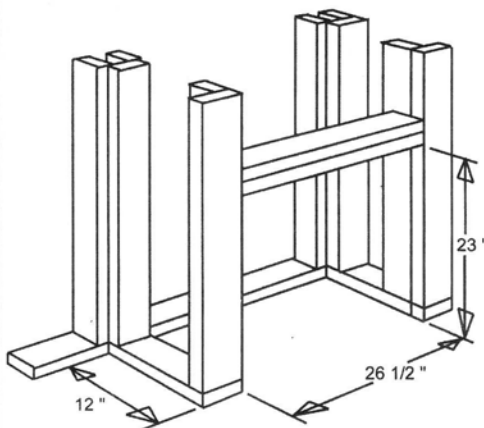

FIGURE 3
4. Use studs to frame an opening of 26 1/2" wide X 23" high (67.3cm wide X 58.4cm high) allowing a depth of 12" (30.5cm). (Refer to FIGURE 3 as an example.)